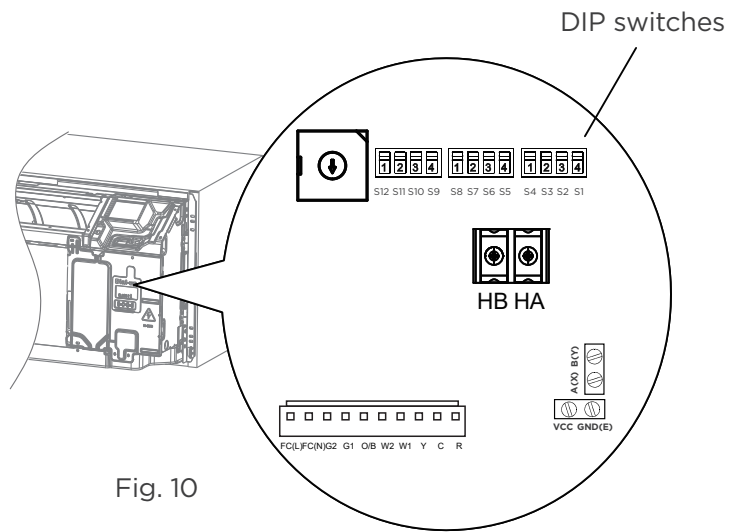

Fig. 10
Step 2: Remove the rubber grommet to set the DIP switches. Reinstall the rubber grommet after you finish. Do not discard the rubber grommet. See Fig. 10.